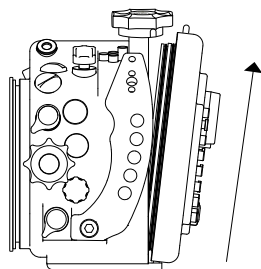

Figure 2
- Remove the Back diagonally, paying attention to the pins located underneath; (fig. 2)